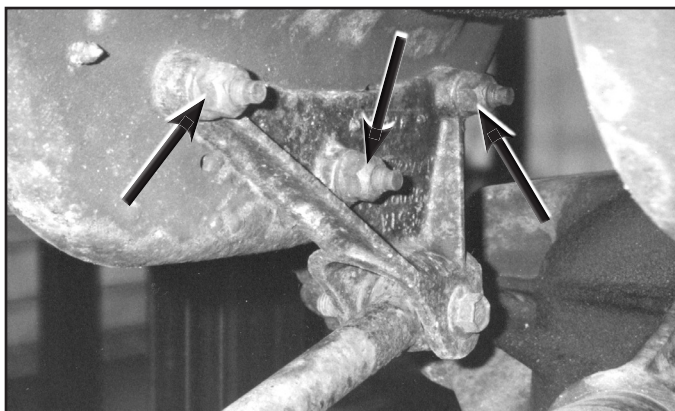

Fig 1
2. Disconnect the track bar bracket from the frame by removing the three mounting bolts (Fig. 1). Retain hardware.